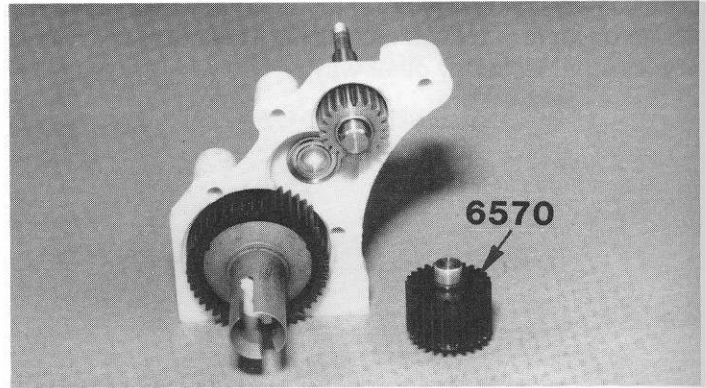

**Fig. 60**
□ **Figs. 60 & 61** Open bag E and remove the #6572 1/16" roll pin. Now using a pair of needle nose pliers, squeeze the roll pin into the hole in the #6571 drive shaft and center the pin. You may need to squeeze the roll pin slightly to get it started in the hole.
□ **Figs. 62 & 63** Install the assembled diff into the right case half lower bearing as shown in fig. 60. Make sure that you install the diff bolt head side through the right case half. **Note:** If you install the bolt head so that it is on the driver's side of the transmission, you may have a problem with the diff backing off. Locate the #6570 idler gear and shaft from bag D and install it into the center bearing of the right case half. There is no right and left gear side, so it can go in either way.